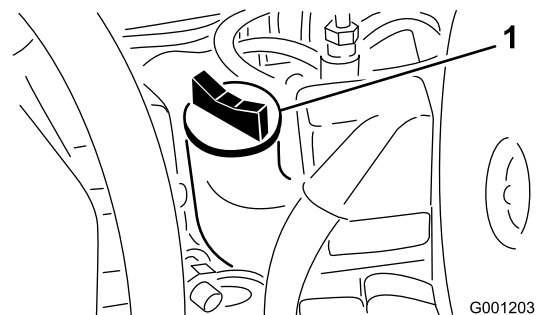

Figure 51
4. If the oil level is below the Full mark, remove the fill cap (Figure 51) and add oil until the level reaches the Full mark on the dipstick. **Do not overfill.**